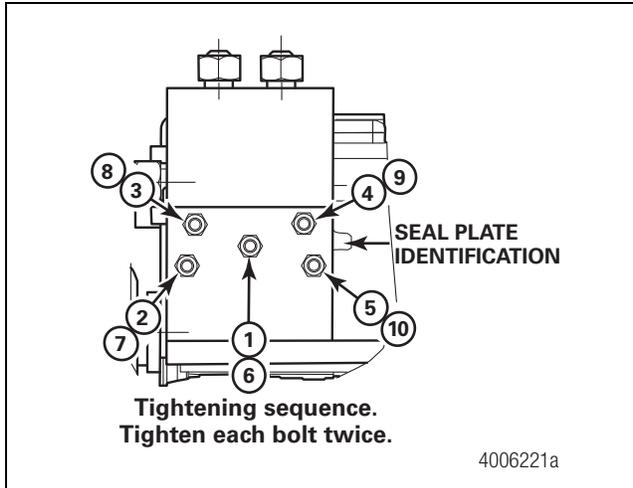

Figure 5
- Place a screw into the center mounting hole of the relay valve. Use a hex-head socket tool for positioning. Place the new relay valve seal onto the relay valve using the screw to align the seal. The orientation should match Figure 5. Position the relay valve against the HCU. Thread the screw into the HCU.
- Use a torque wrench to tighten all five screws to 71 in-lb (8 N•m) following the numbered sequence illustrated in Figure 5.